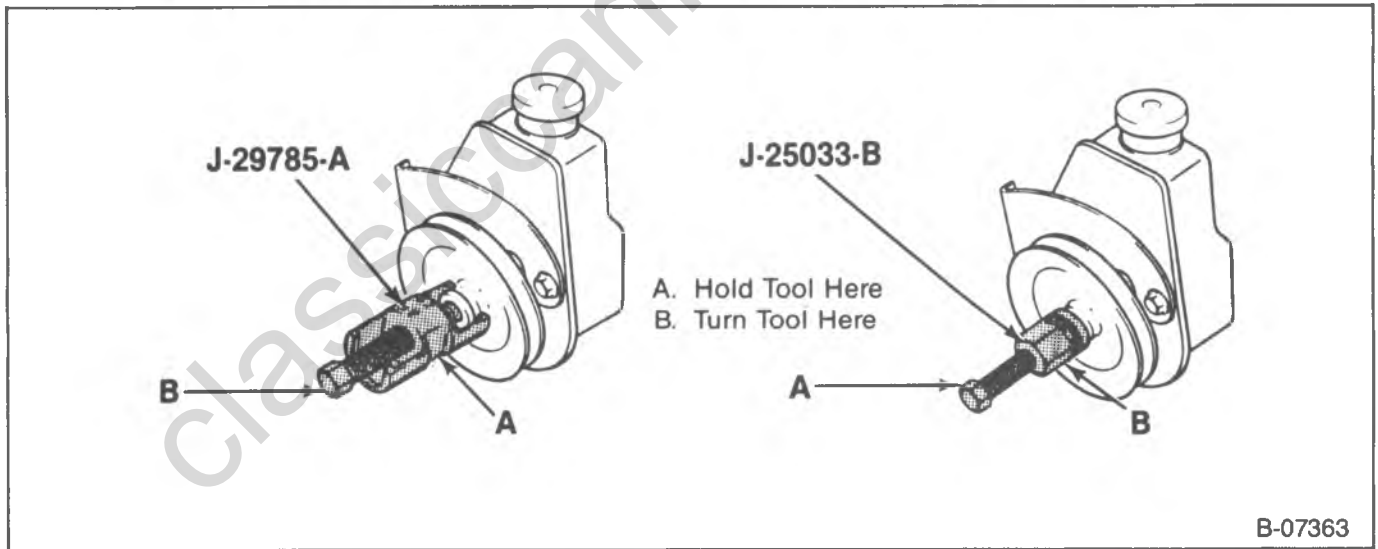

Figure 28—Installing and Removing Pulley
- Hold the pilot bolt and turn the nut counterclockwise (figure 28).
- Hold the pilot bolt and turn the nut clockwise (figure 28).